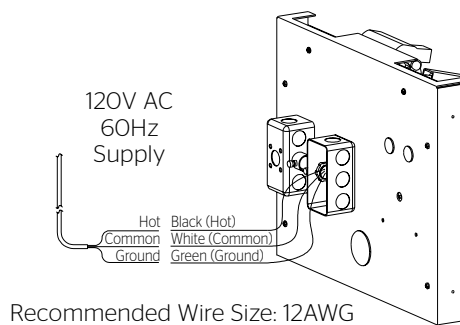

Figure 15
14. Use a licensed electrician to wire the Da-Lift. See Figure 15 (120 volt) or Figure 16 (220 volt). Plug the power supply into the receptacle of the Da-Lift.